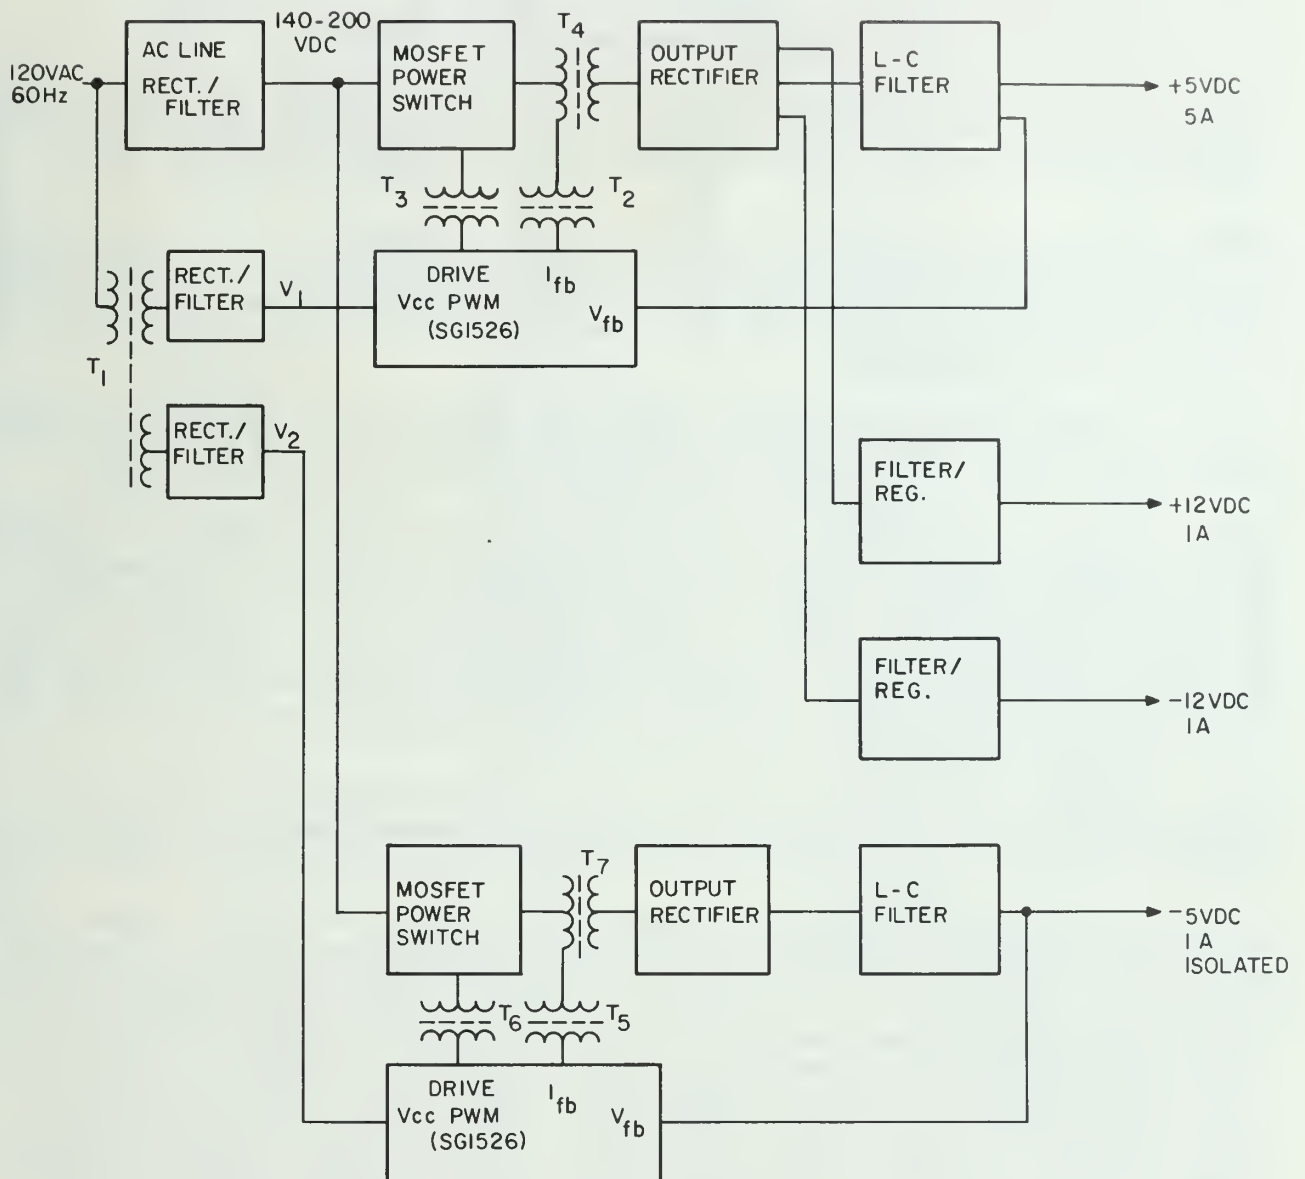

Figure 2-3. Power Supply No. 1 and No. 2 CCA N1A2A1/A2, Block Diagram
### **2.3.4 Power Supply No. 1 and No. 2 CCA N1A2A1/A2 Functioning. (See figure 2-3)**
**2.3.4.1** The IDE power supply is a redundant system employing dual independent off-line switching converters. Figure 2-3 is the power supply CCA block diagram which is identical for each supply. Each power supply is complete on a single circuit card assembly and supplies all four voltages required for system operation. These are +5 Vdc, +12 Vdc, -12 Vdc and an isolated 5 Vdc for radar interface circuits. In addition, all output voltages are isolated from the ac line by transformers of greater than 5 megohm isolation resistance.